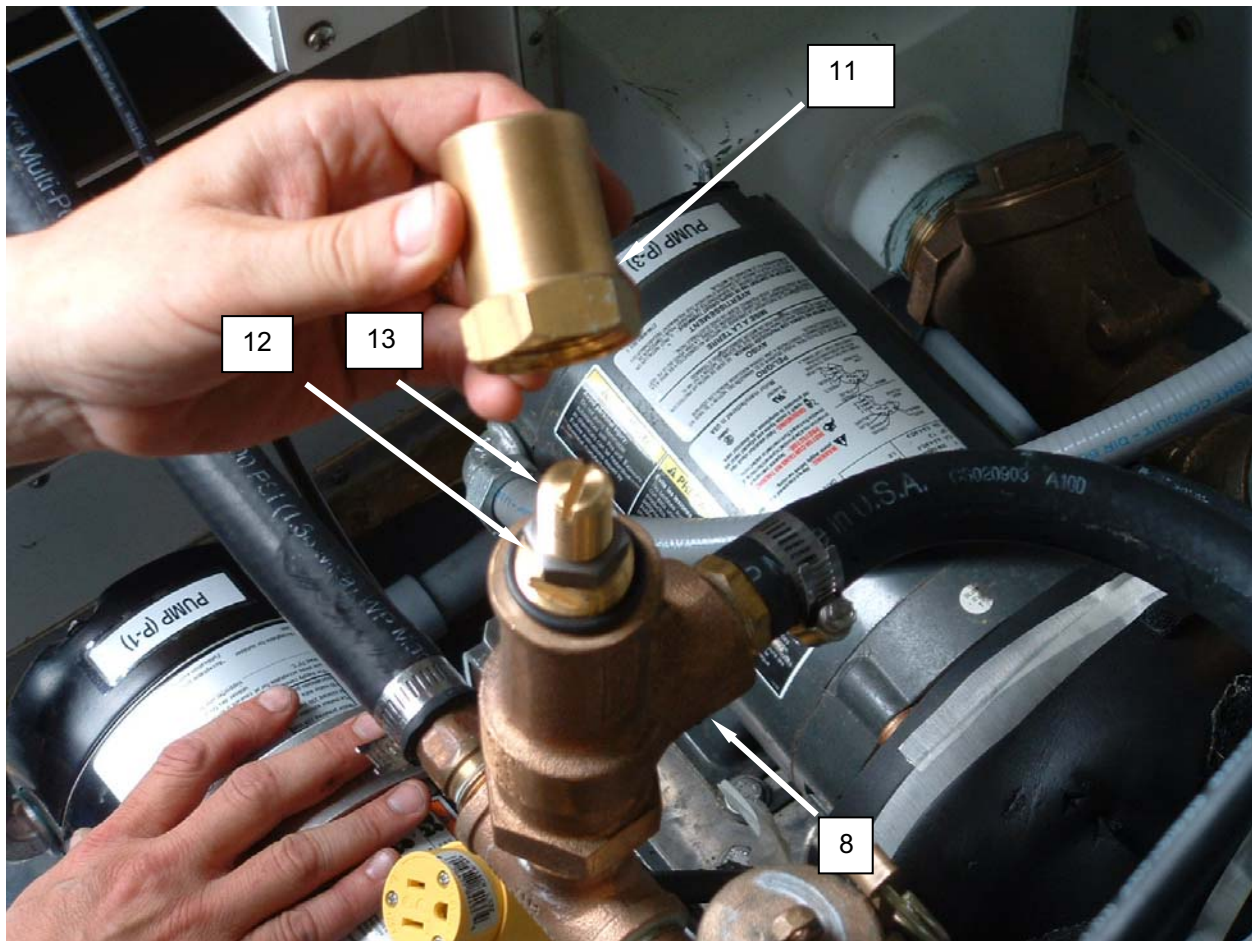

Figure 4. Adjust the Pressure Relief Valve.
1. Remove the cap (**Figure 4, Item 11**) from the pressure relief valve (**Figure 4, Item 8**).
2. Loosen the locknut (**Figure 4, Item 12**).
3. Turn the adjustment screw (**Figure 4, Item 13**) clockwise to increase relief pressure or counter-clockwise to decrease relief pressure.
4. Tighten the locknut (**Figure 4, Item 12**), and install the pressure relief valve cap (**Figure 4, Item 11**).